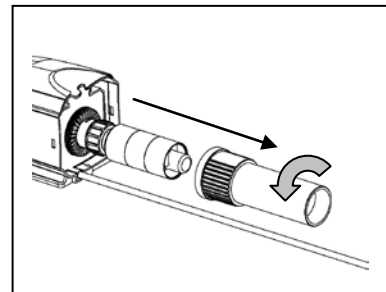

Fig. 13
7. Remove the light cover from the pump by turning it counterclockwise and pulling it away from the pump. Fig. 13